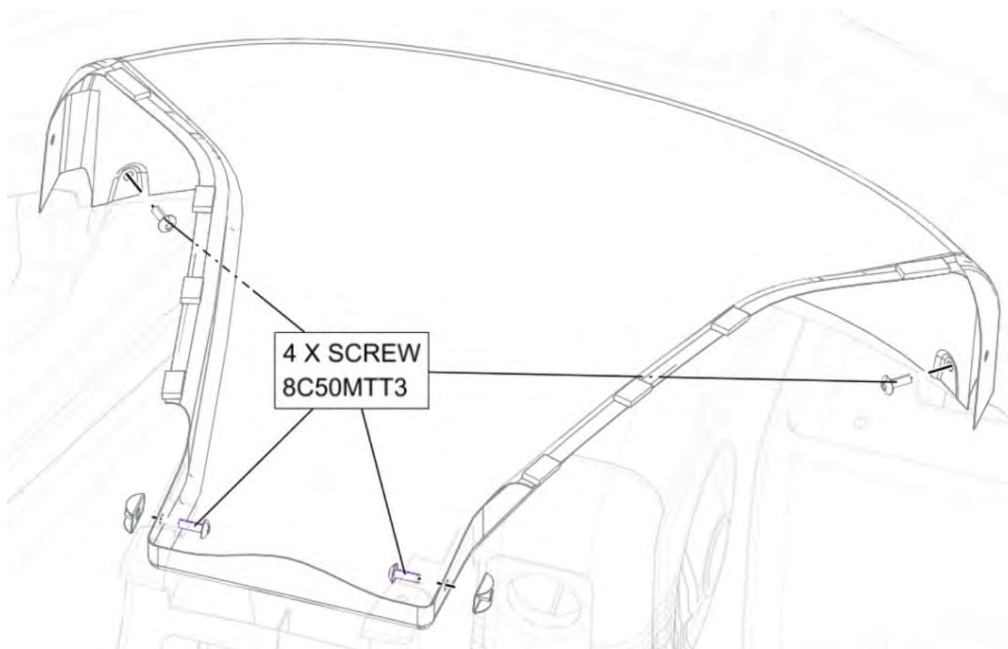

FIGURE 8-12
5. Install center spine using four screws as shown in Figure 8-12, torque screws to 13 in-lbs.